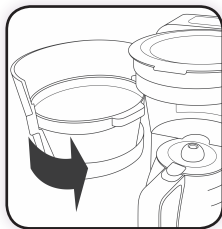

Figure 2
- 2 Run a brew cycle with water only. Do not add coffee, paper or reusable filter. Make sure the Carafe and Removable Filter Basket are securely in place and close the Front Loading Brew Basket door. (Figure 2)